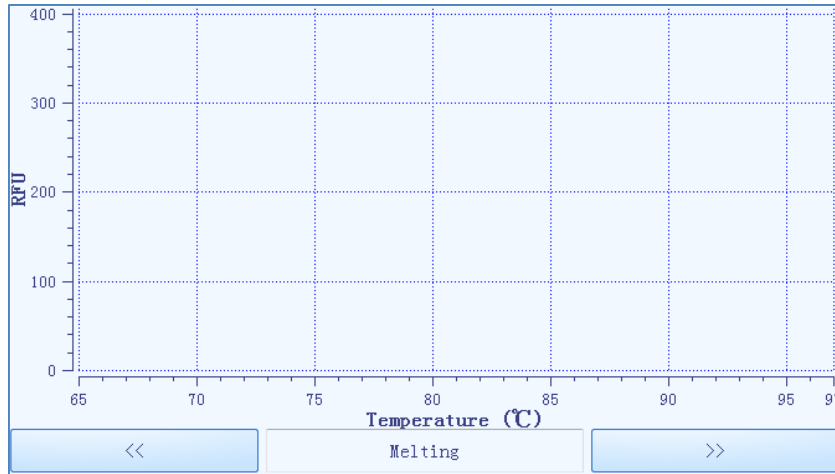

Figure E-5.2 Run Monitoring Diagram - Real-time Melting Curve
- b. User can press  key below the run monitoring diagram to monitor the real-time **Melting** curve of the current experiment, as shown in figure E-5.2.